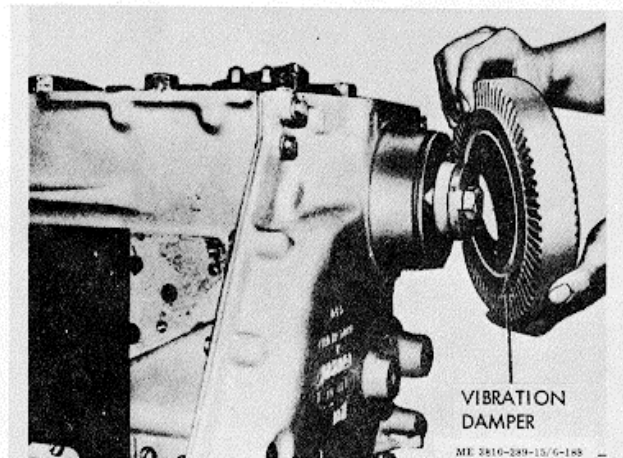
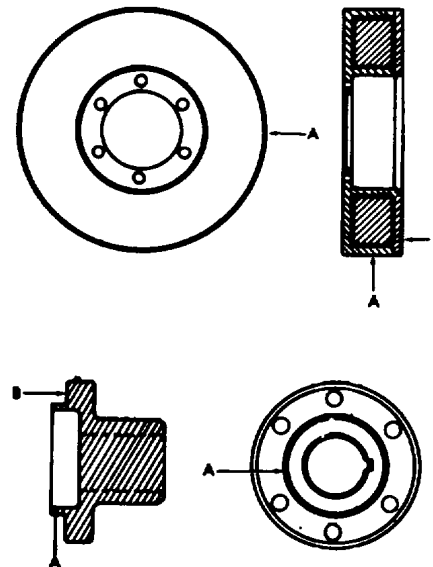

Figure 3-180. Vibration damper installation.
Figure 3-181. Vibration and crankshaft hub eccentricity and wobble measurements.
(2) Place vibration damper over flange, figure 3-180. Secure with lockwashers and capscrews.
(3) Torque capscrews to 85/45 ft.-lbs.
(4) Eccentricity of vibration damper mounting flange measured on the outside diameter of the pilot must not exceed 0.004 in. total indicator reading, (A, fig. 3-181).
(5) Wobble in the vibration damper mounting flange must not exceed 0.003 in. measured at 23/4 in. radius (B, fig. 3-181).
(6) After assembly, vibration damper maximum allowable runout (total indicator reading) must not exceed values shown in table 2-2.